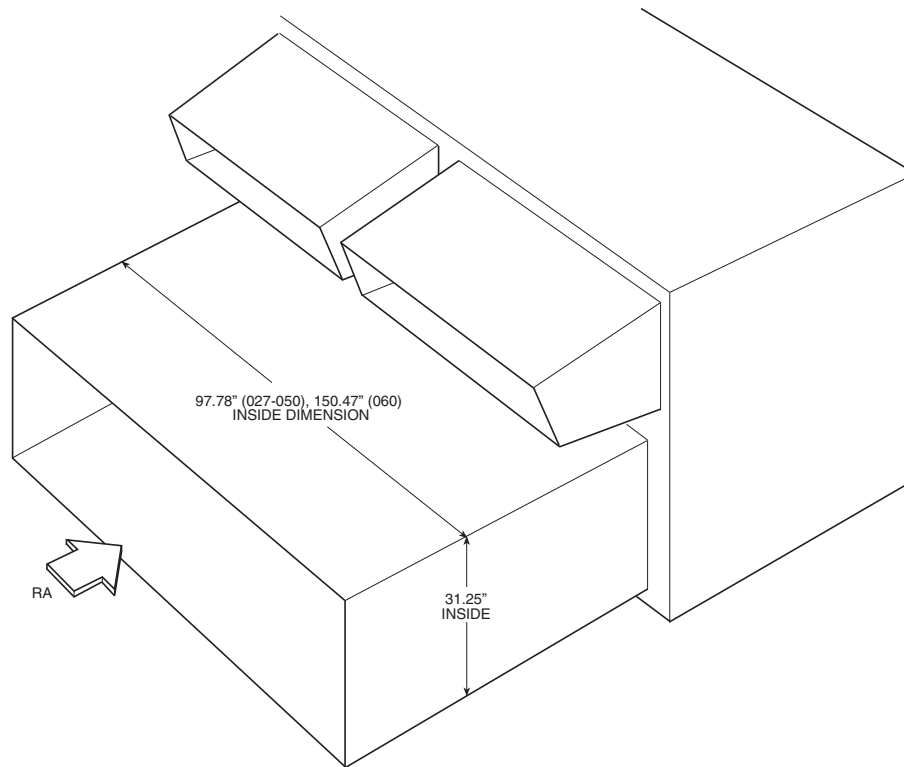

Fig. 45 — Side Return Air Conversion
3. Run the return air ductwork up to the openings. One single duct is recommended to connect to the unit over the return air openings. See Fig. 45. The return duct must incorporate a minimum 3/4-in. flange for connection to the unit cabinet. The unit does not have duct flanges for this conversion.
Side Supply and Return Units (48A4,A5) with Field-Installed Power Exhaust in Return Duct — Space must be available in the return duct to mount the power exhaust fan (gravity relief) modules. Dimensions and suggested locations are shown in Fig. 45. These instructions are a guideline and not a comprehensive procedure. The design contractor must provide some design initiative.